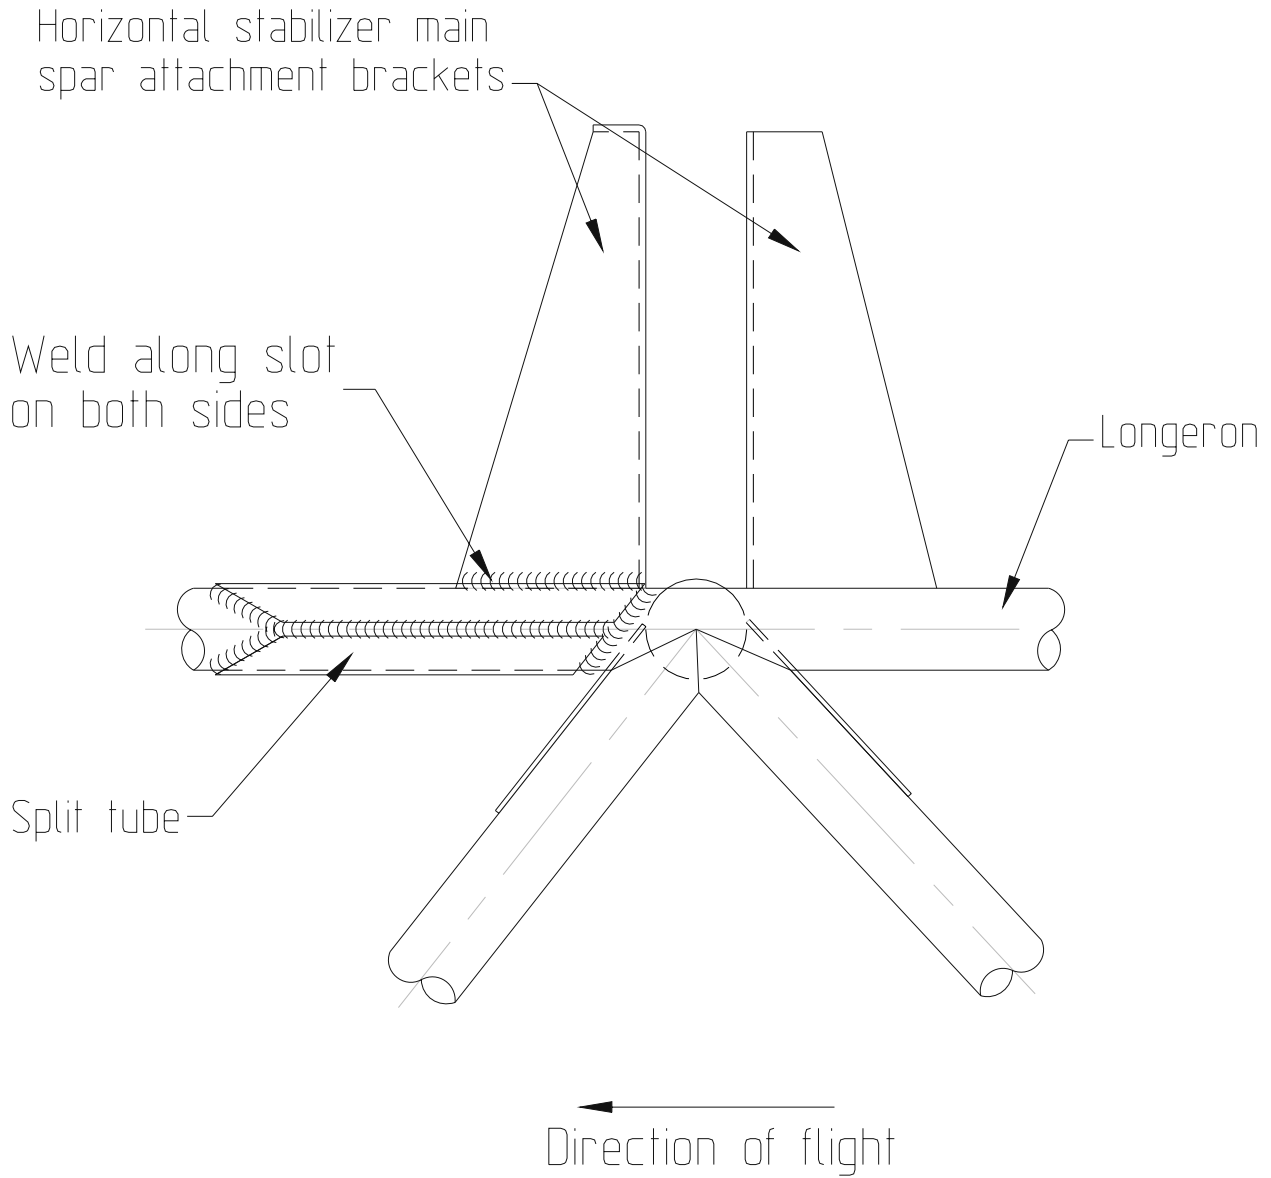

Figure 2: Typical installation of split tubes to repair crack in longeron.
- Weld any crack in areas A, B and C. Cracks in the longerons have to be repaired with sleeves (split tubes) according Figure 2, additionally.